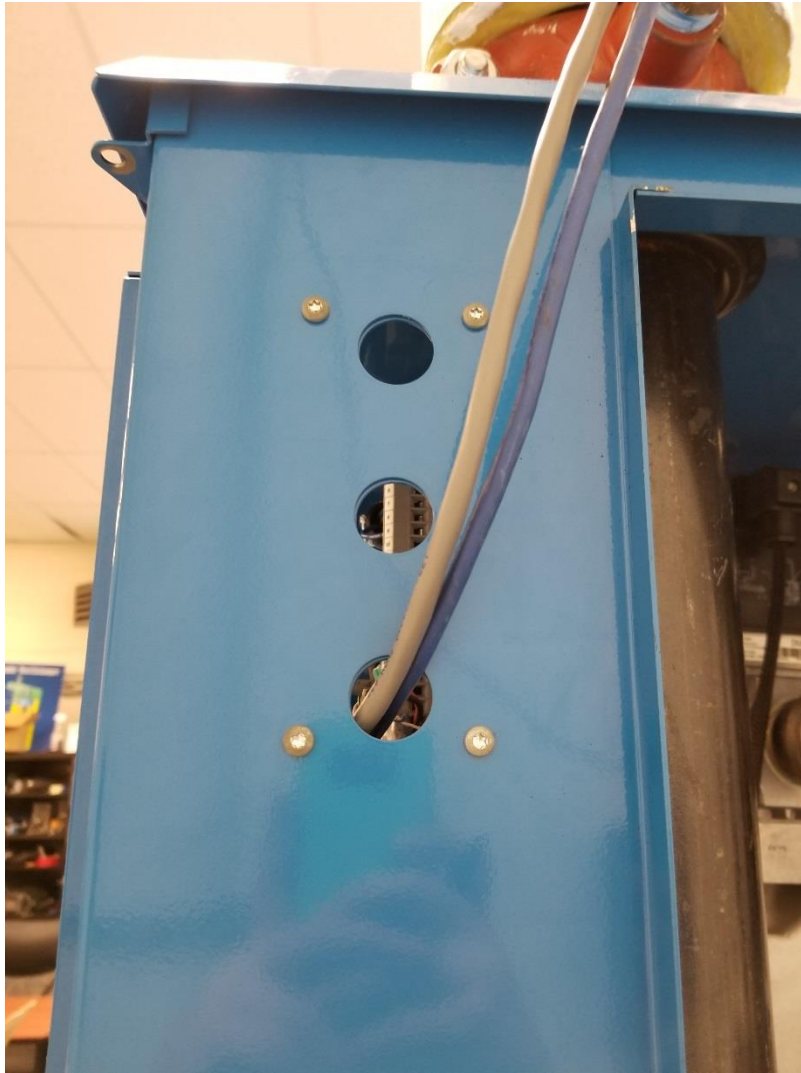

Figure 9
11. Install new terminal boxes and secure using 4 T20 Torx screws on each side shown in figure 9.